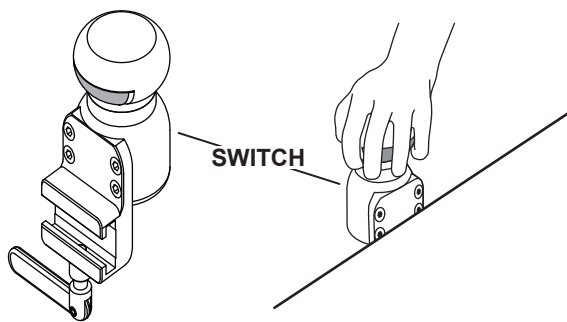

Figure 18. Hand Console Switch
1. Press the hand console switch (Figure 18).